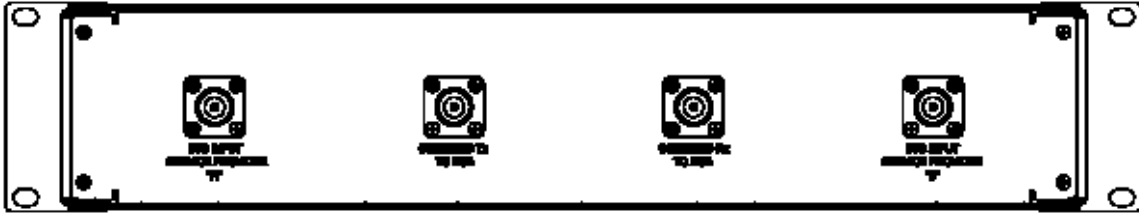

Figure 18: RF Combiner Rear Panel.
- Figure 18: Application of Alarm Relay Contacts